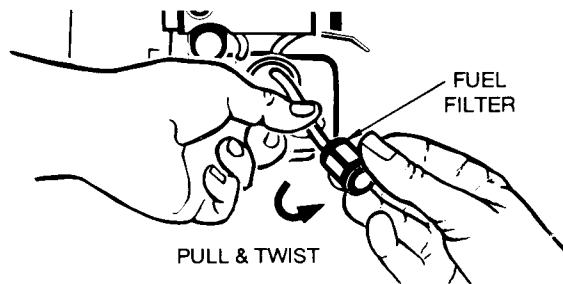

Figure 8-5C
2. Pull off with a twisting motion. (Figure 8-5C)